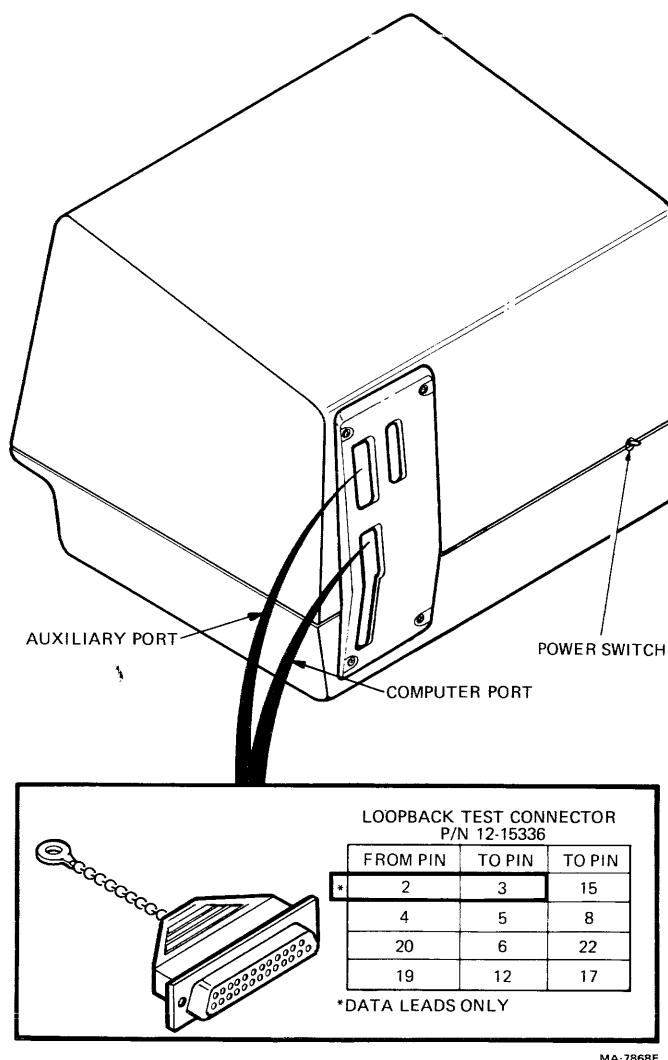

Figure 9-1 EIA Loopback Connector
3. If a cable was connected to the EIA computer port connector, install an EIA loopback connector on the EIA connector (Figure 9-1). The EIA loopback connector part number is 12-15336. One loopback connector was shipped with the terminal or upgrade kit.